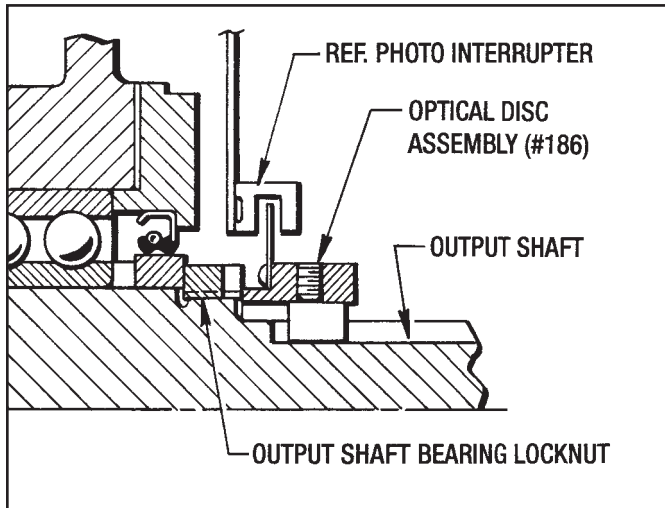

Figure 9.15 - Optical Disc and Hub Positioning
1. Install Key (#234), then slide the Optical Disc Assembly (#186) onto the output shaft, butting it up against the Locknut (#15). (See Figure 9.15)
7. Carefully insert the Circuit Board (#355) into the top of the Disc Housing making sure the (3) Photo Interrupters straddle the Optical Disc. (See Figures 9.15 and 9.16)